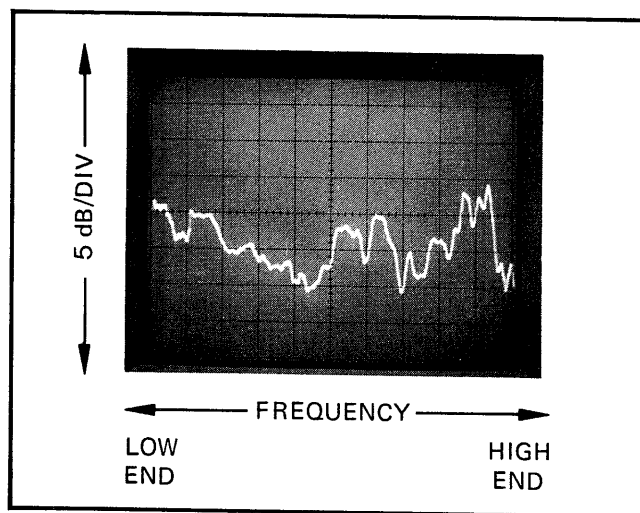

Figure 4-7. Leveled Power
- i. Verify that the peak-to-peak ripple (Figure 4-7) on the network analyzer trace is as shown in Table 4-4.